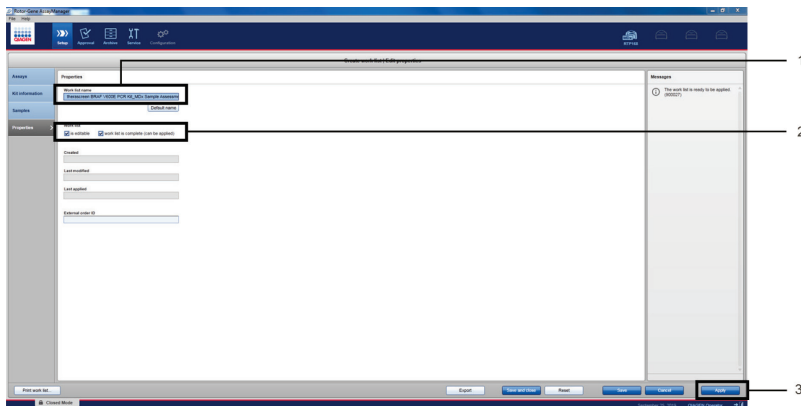

Figure 9. “Create work list” window on the Properties” tab. 1 = “Work list name” field. 2 = “is editable” and “work list is complete” check boxes. 3 = “Apply”.
9. Click the “Properties” tab. Enter a work list name in the “Work list name” field and check the “is editable” and “work list is complete” boxes. Click “Apply” to apply the work list (Figure 9).